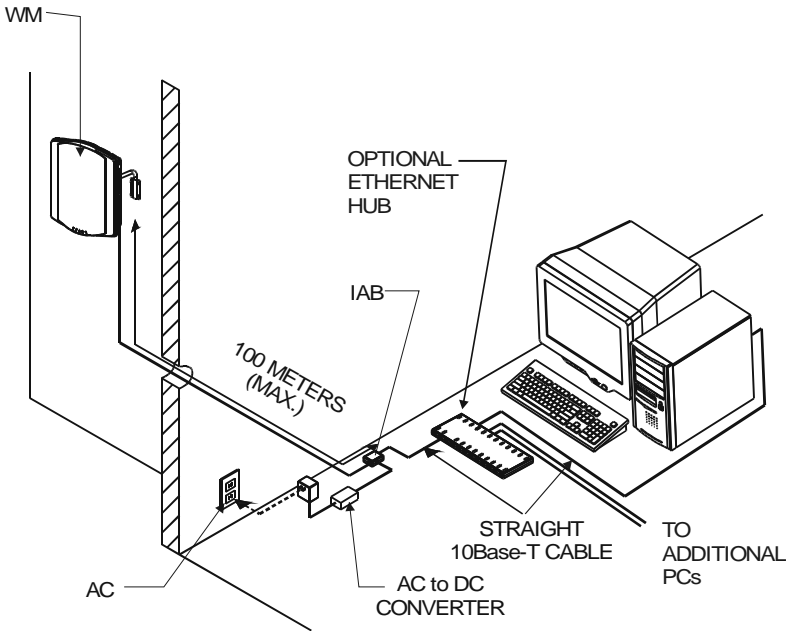

Figure 5-13 Connections to a LAN
- For multiple user installations, use a "straight-through" cable format when connecting the power/data adapter to a LAN hub, as shown in Figure 5-13.